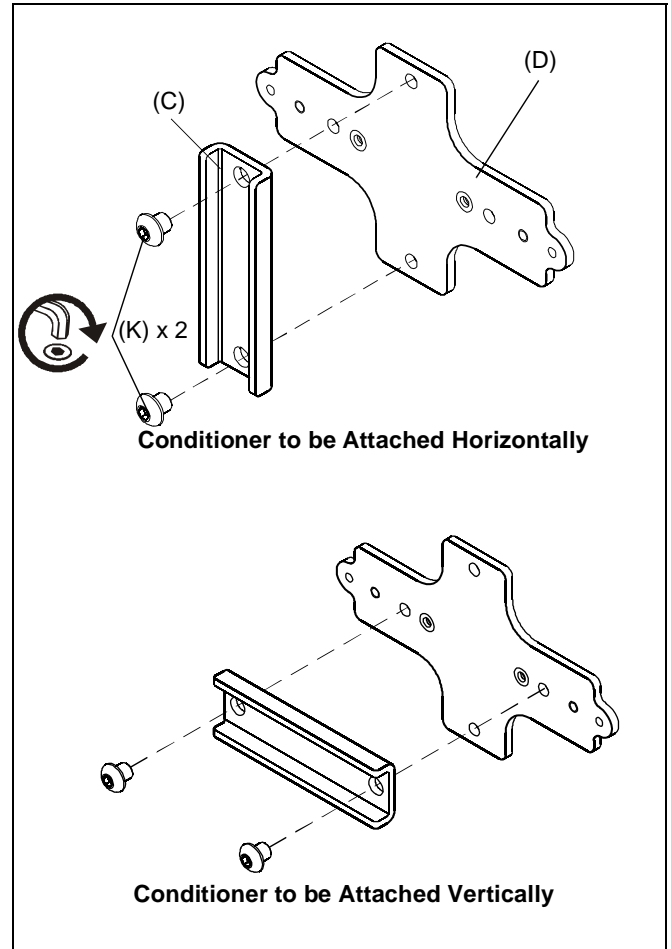

Figure 3
1. Attach bracket (D) to pole mount bracket (C) using two 1/4-20 x 1/4" buttonhead screws (K). (See Figure 3)
**NOTE:** The bracket can be installed for either horizontal or vertical attachment of the conditioner. (See Figure 3)